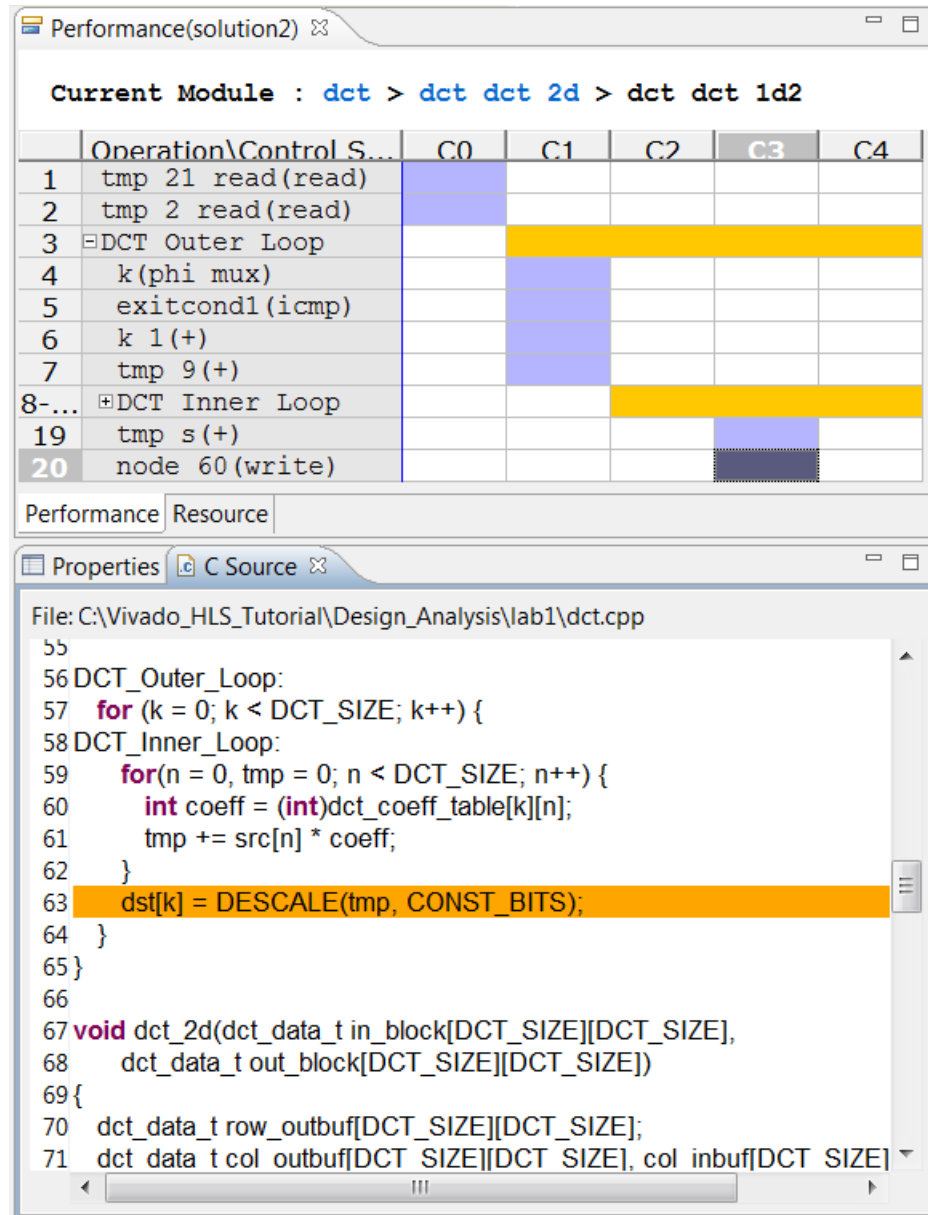

Figure 6-18: DCT Solution2 dct_1d Performance View
11. In the Performance view, click loops `DCT_Outer_Loop` and `DCT_Inner_Loop` to view the loop hierarchy (Figure 6-18).
Figure 6-18 shows that this loop was not flattened because additional operations outside of `DCT_Inner_Loop`, at the level of `DCT_Outer_Loop`, prevented loop flattening. One of the operations that prevented loop flattening is highlighted in Figure 6-18, below.